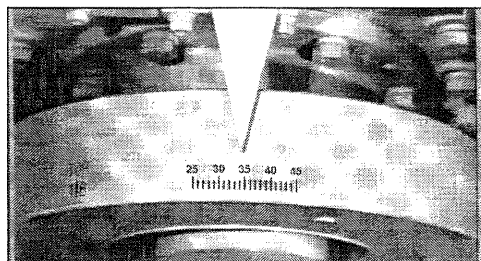

Figure 13
- f. Check the crankshaft timing mark on the crankshaft damper to see if it is aligned with the pointer (Fig. 13).
- h. Align the crankshaft timing mark (Fig. 13) on the damper with the pointer by slowly rotating the crankshaft in the direction of engine rotation.